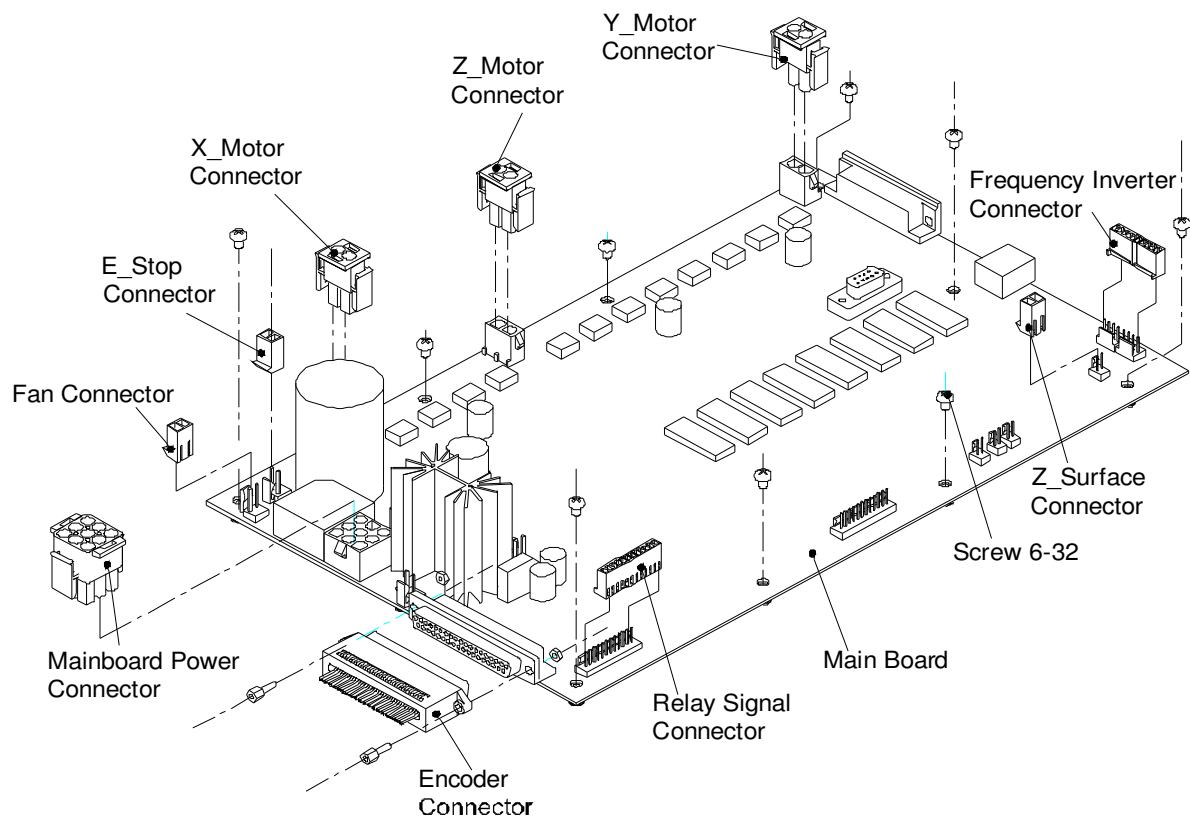

Figure 4
- a. **Unplug all Connectors(Figure 4).**